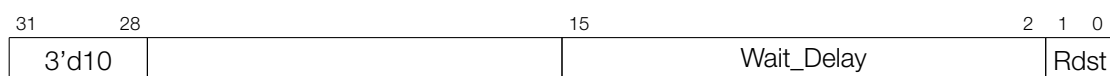

Figure 153: Instruction Type — TSENS
**Operand**    **Description** - see Figure 153